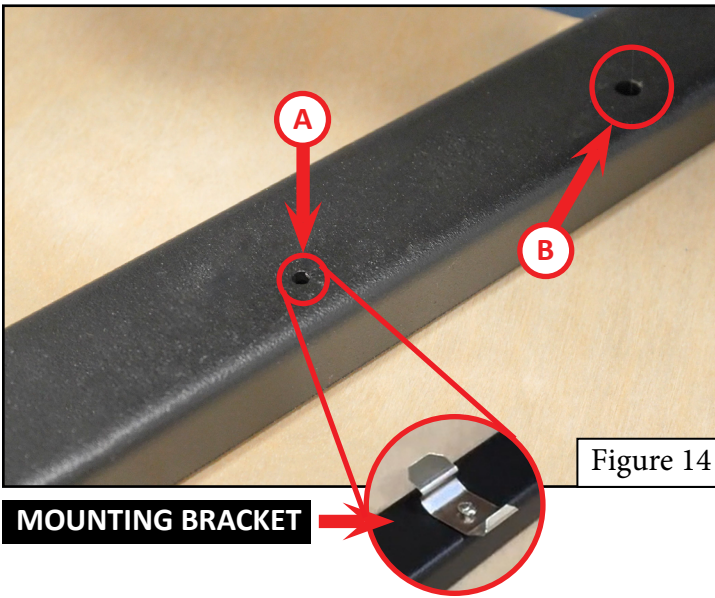

Figure 14
10. The smaller diameter holes on the metal bracket/fastener bar should only be used for the roller shade mounting brackets (Item **A**). The four larger holes across the bar are to be used to secure the bar to the window frame (Item **B**), (Figure 14).